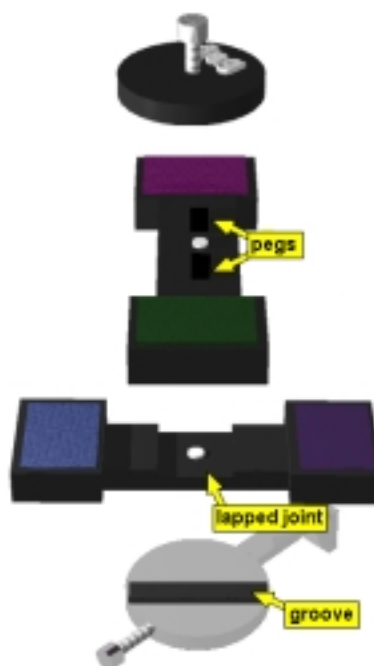

Figure 96 Assembling the filter brackets
4. Attach the 2 required filter brackets to the Fast Filter motor, as shown in Figure 96.